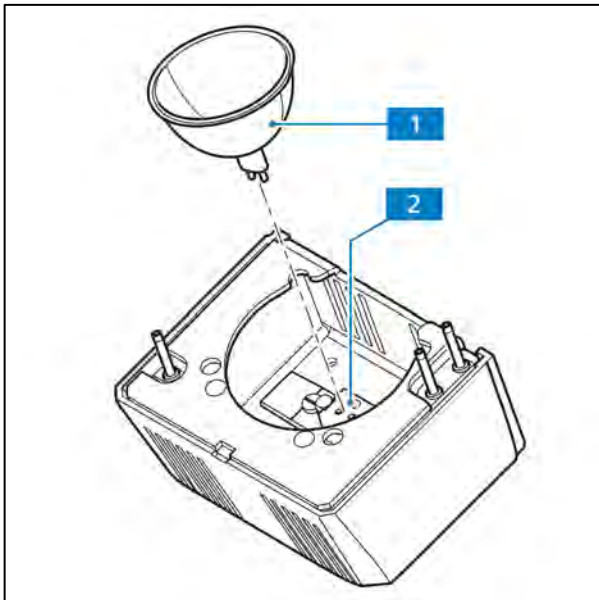

Fig. 3-26 Inserting halogen lamp 12 V, 50 W
- Remove the used 12 V, 50 W halogen lamp (if necessary) by pulling it out of the cap (Fig. 3-26/2) in an upward motion.
- Push the new lamp (Fig. 3-26/1) with its two cap pins gently and carefully into the lamp cap (Fig. 3-26/2). Be careful not to touch the protective glass of the lamp. To avoid bending its cap pins or damaging the lamp holder, the lamp must not be tilted.